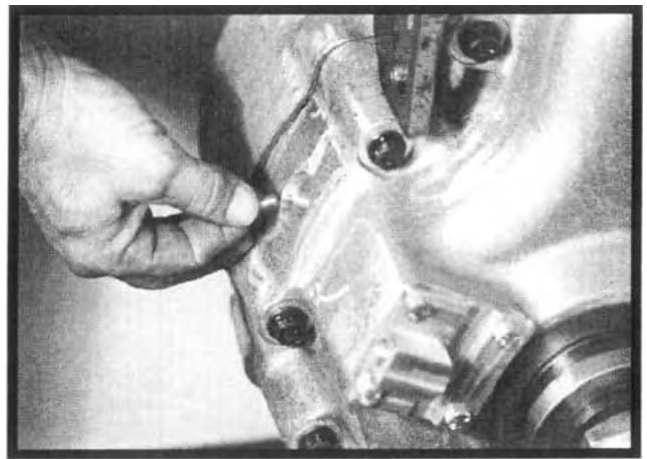

Figure 4.2
1. Remove the front drive indicator switch, washer, and pin. See Figure 4.2.